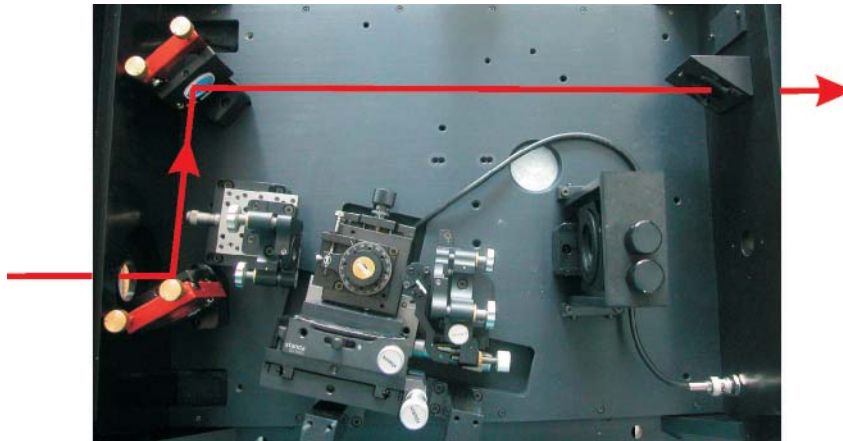

Fig.24 Beam path through the PulseSwitch during normal Mira operation
- You just need to move M5 and rotate M6 as shown in Fig. 24. Unscrew the mounting block of M5 and place the mirror in front of the input aperture of the PulseSwitch. Use the two threads in the bottom to fix M5 again. Unscrew the M6 mounting block, rotate it by approximately. 30 degrees and fix it using the designated mounting holes on the bottom. (Fig. 25)
6. After having optimised the diffracted beam by appearance remove the beam stop (screen) and adjust the collimating mirror tilt controls [5, 6 in Fig. 26] to let the diffracted beam leave the optics through the output Brewster-window parallel to the table top. Use the adjustable beam stop [see Fig. 24] to suppress the zero order beam.